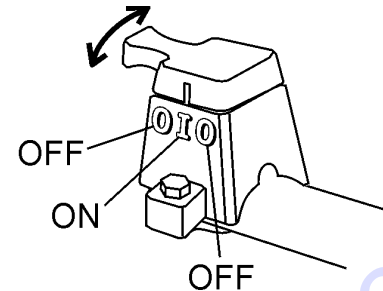
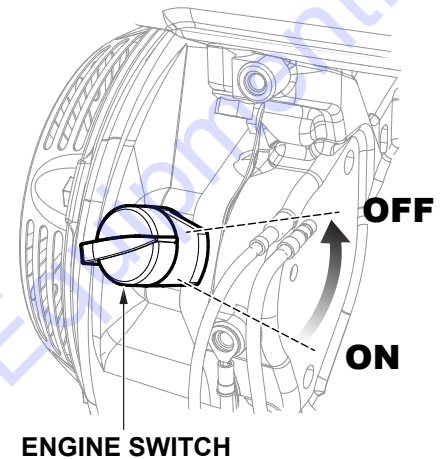

Figure 16. Engine Shutdown Switch
Figure 17. Engine ON/OFF Switch
4. If the oil level is low (Figure 16), fill to the edge of the oil filler hole with the recommended oil type (Table 6).
1. Ensure that the engine shutdown switch (Figure 16) and the engine ON/OFF switch (Figure 17) on the engine are both in the OFF position to avoid accidental starting.
2. Turn the engine shutdown switch (Figure 16) to the OFF position. Shutting the engine off using this switch confirms that is functioning properly.
3. Turn the engine ON/OFF switch (Figure 17) to the OFF position.